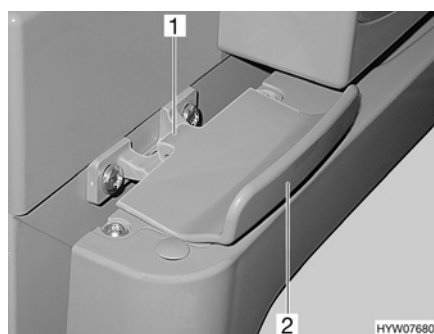

Fig. 98 Lock of refrigerator door, closed (Thetford)
- Open the refrigerator door at the handle (Fig. 98,2). The lock (Fig. 98,1) is released automatically.